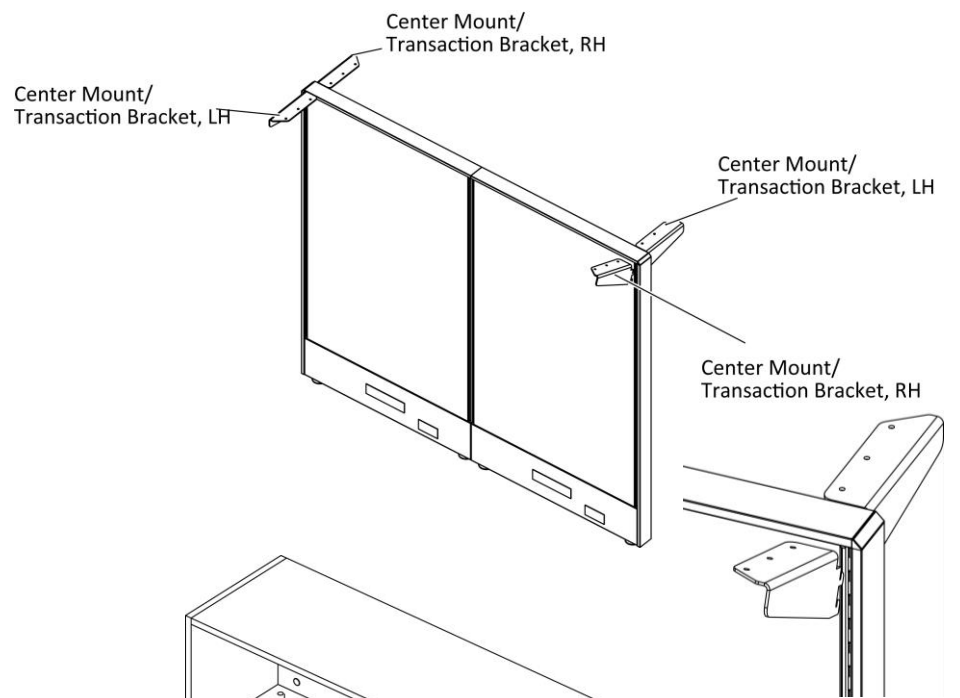

Figure 1
- 1. Angle the center mount/transaction bracket at a 30-degree angle and insert the upper hooks to the topmost slot in the panel frame.; push the bracket up, and release them down to engage the lock, (Figure 1). Ensure the center mount/transaction bracket is secure in the required configuration: Center, Left, or Right